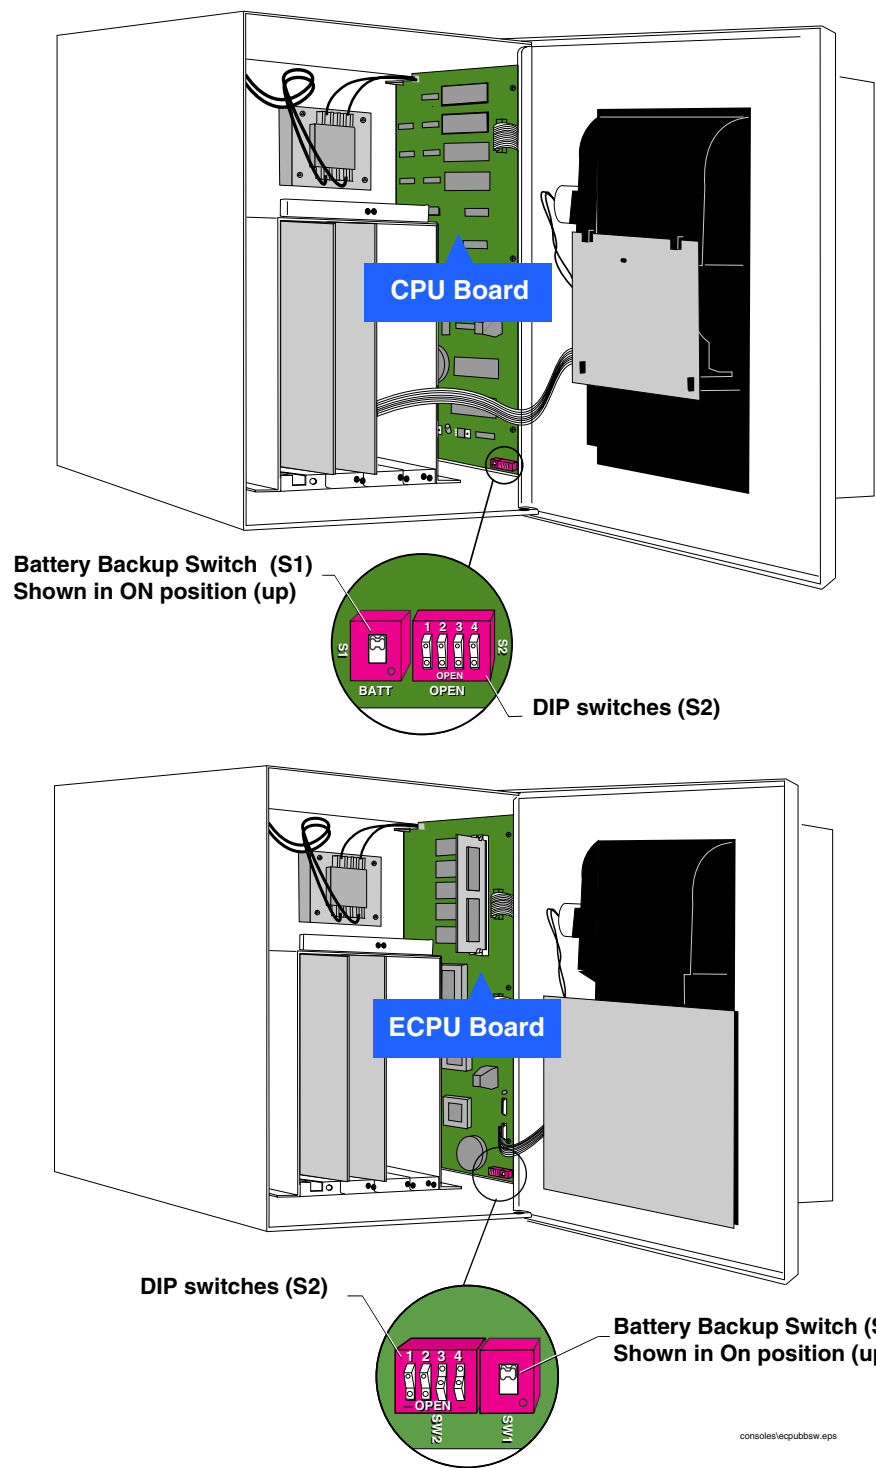

Figure 1. CPU/ECPU Boards - Battery Backup Switch in On Position
2. To retain current programming, be sure that the CPU (for TLS-350) or ECPU (for TLS-350R) battery backup switch is in the On position (see Figure 1 on page 4). If you have to set the battery backup switch to the On position, avoid touching any circuit components with your hand or any conductive tool.